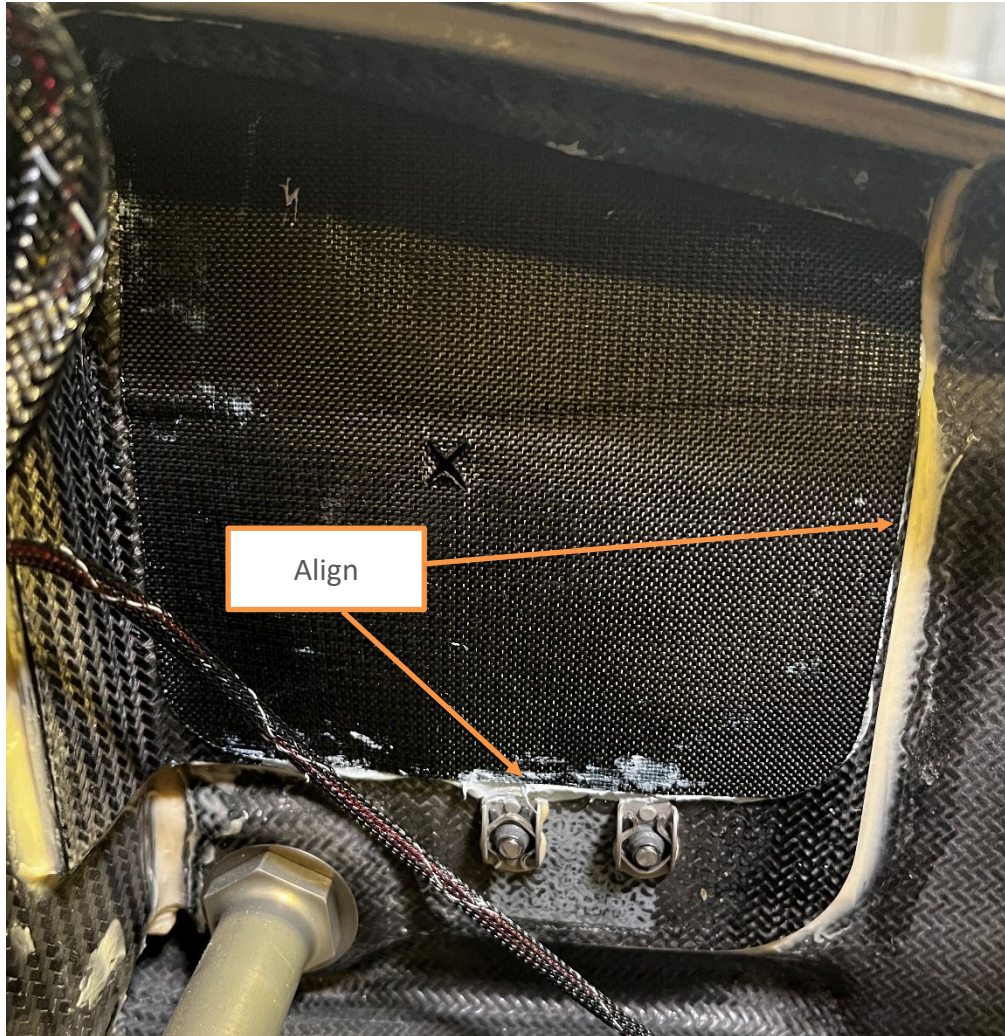

Figure 8 Installed Wing Fold Tube Cover
- a. Use the nut plates on the lower part of the Wing Fold Tube and aft geometry of the Wing Fold Tube for alignment. (See **Figure 8**.)